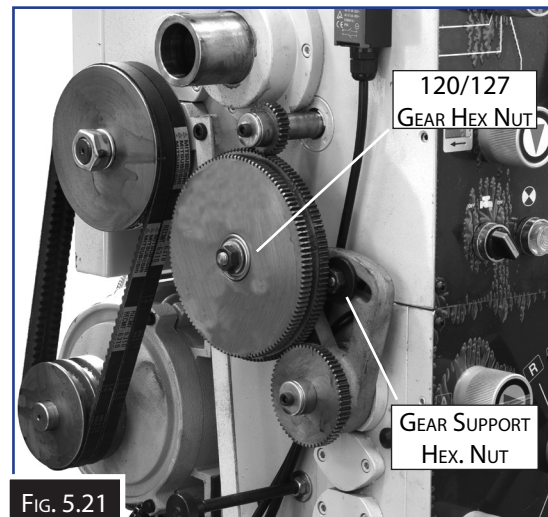

FIG. 5.21
4. While holding the 120T/127T gears, loosen the arm by undoing the gear support hex nut and slowly let the gears pivot down and away from the upper top gear, as illustrated (Fig. 5.21)
5. Loosen the 120T/127T gear hex nut and slide the middle gear away from the bottom gear. The 120T/127T gears many need to be reversed. Undo the 120T/127T gear hex nut (Fig. 5.21) and reverse the gears.